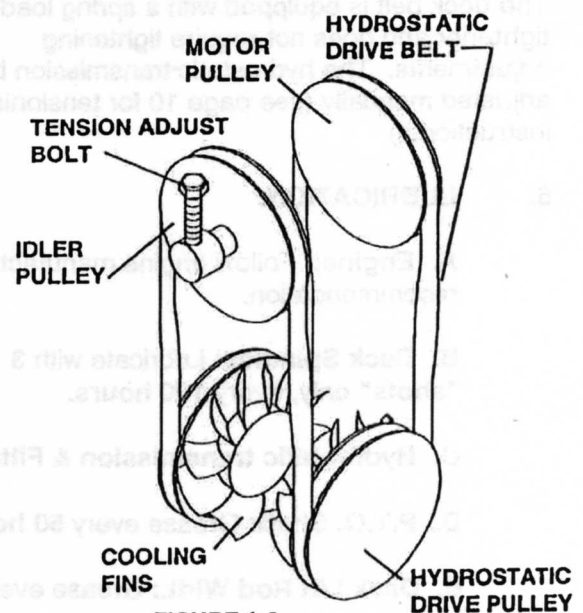

FIGURE 1-6
In normal use the hydrostat drive belt tension should be checked after the first 20 hours of use for normal wear in and stretch. It may be adjusted as follows: **See Figure 1-6.**
d. Retighten the tension adjust bolt 1/4 turn to set the lockwasher and prevent loosening of the tension adjust bolt. **See Figure 1-6.**